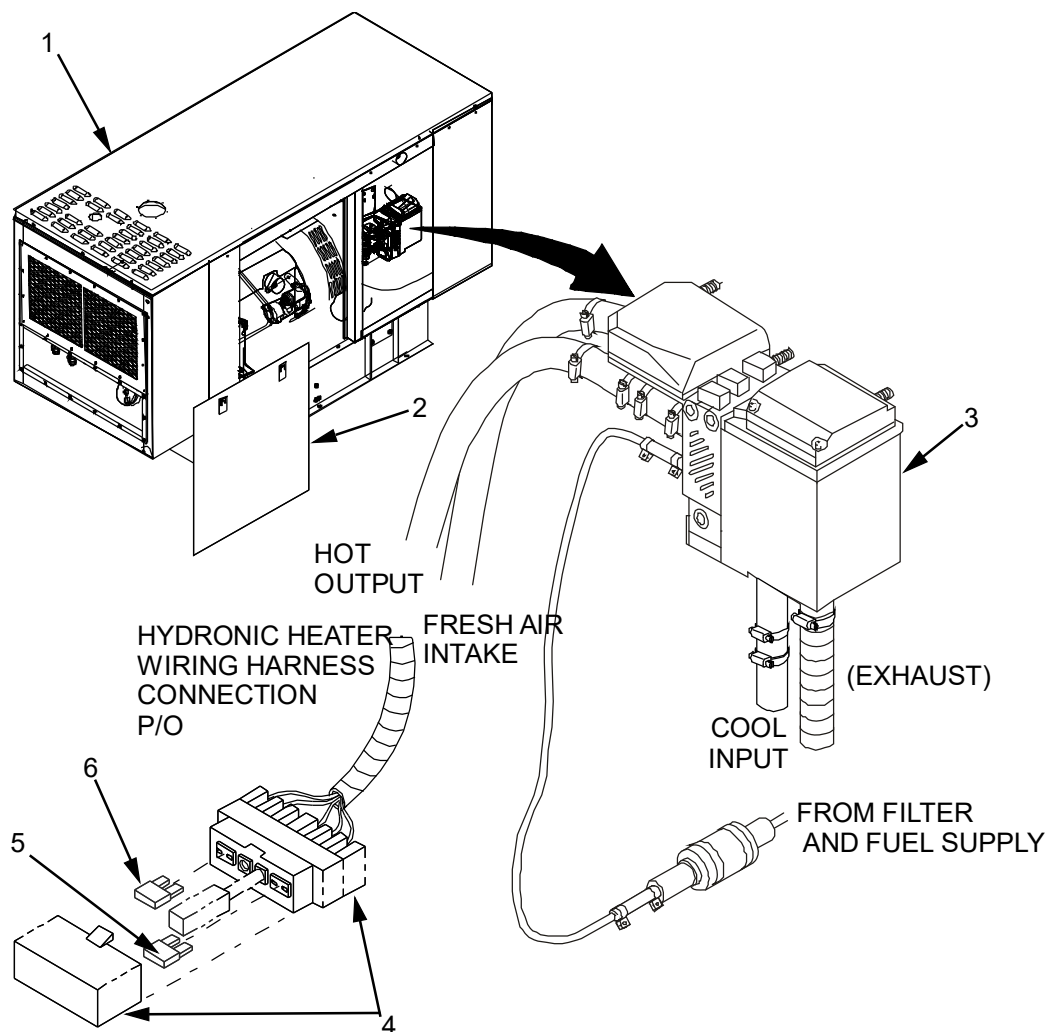

Figure 4. Engine Block Heater Fuse - Replace.
1. Verify that Genset (Figure 4, Item 1) has been shut down, engine is cool, and that BATTERY SWITCH is set to OFF (WP 0005, Genset Shut Down Procedure).
2. Remove front access door (Figure 4, Item 2) on Genset (Figure 4, Item 1) and set aside.
3. Locate fuse holder (Figure 4, Item 4) on engine block heater (Figure 4, Item 3) and open cover.
4. Identify and remove bad fuse (Figure 4, Items 5 and 6).
1. Replace fuse (Figure 4, Items 5 and 6) with proper type and value.
2. Close fuse holder (Figure 4, Item 4).
3. Install access door (Figure 4, Items 2) on Genset (Figure 4, Item 1).